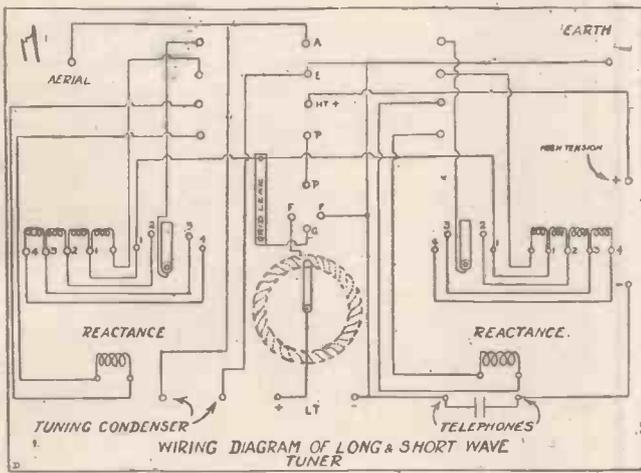

Fig. 1.
between the above-mentioned point and the grid of the valve. Positive low tension to switch arm of resistance, through the latter and thence to the positive, *e.g.*, of the valve holder. The actual diagrammatic sketch of the circuit is shown in Fig. 1, which gives details of the actual circuit when the C.O.S. is either on long or short wave side. Very little trouble should be experienced in joining up the set if the diagrams are studied closely.
The method of varying the coupling between the aerial coils and the reaction coil is also shown in Fig. 1, where a brass rod is shown as having been screwed or otherwise fixed in the lid of the box and fitted with an ebonite at the top. The length of this rod is determined by the depth of the cabinet, and in this case it is constructed to the requirements of a cabinet $6\frac{1}{2}$ in. deep.
Now let us consider the reversal of this action, and that we require to hear a transmission on 350 metres, on the set diagrammatically represented in Fig. 1 (A), which has a minimum wave-length of 600 metres.
To bring the circuit to the desired wave-length we might include a condenser in series with the aerial circuit as shown in Fig. 1 (B), and, provided that the condenser in question is of a suitable capacity, we can then hope to tune in signals on a wave-length of 350 metres.
The aerial tuning inductance is of the same value as that shown in Fig. 1 (A), and therefore in adding the condenser to the circuit two "capacities" have been connected together in series.
It is, of course, apparent that, given a circuit as shown in Fig. 1 (B), the wave-length could be increased slightly by the addition of condensers in parallel to the one already in circuit.
A skeleton plan, Fig. 1 (this article), shows a method of connecting a model shunt-wound electric motor to the selector (described in my previous articles), and consists of a battery A, shunt-wound electric motor B (with field magnet winding B1, and armature with commutator B2), drum C, contacts D, D1, D2, and E, E1, E2.